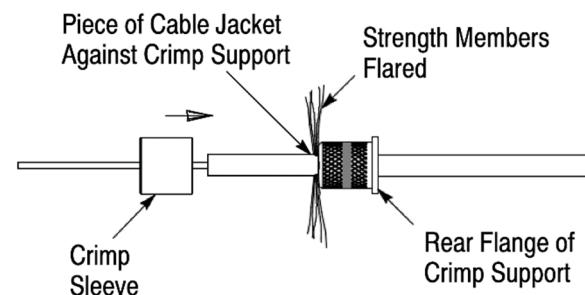

Figure 4
1. Apply a continuous bead of the Loctite 480 instant adhesive around the cable jacket between 4 and 5 mm from the stripped end of the jacket. See Figure 4, Detail A.
2. Rotate and slide the crimp support (large diameter end first) over the fibers and strength members and onto the jacket until it bottoms. See Figure 4, Detail B.
3. Apply a thin band of the instant adhesive around the knurled portion of the crimp support. Make sure that the band is continuous around the entire circumference. See Figure 4, Detail C.
4. Slide the piece of cable jacket (stripped from the cable in Paragraph 5.1) over the buffered fiber and into the center of the strength members until it bottoms against the crimp support and the strength members are flared away from the fiber. See Figure 4, Details D and E.
5. Slide the crimp sleeve over the fiber and the piece of cable jacket so that the strength members fold back evenly around and over the crimp support until it bottoms on the rear flange of the crimp support. **This step should be performed quickly before the adhesive begins to harden.** See Figure 4, Detail E.